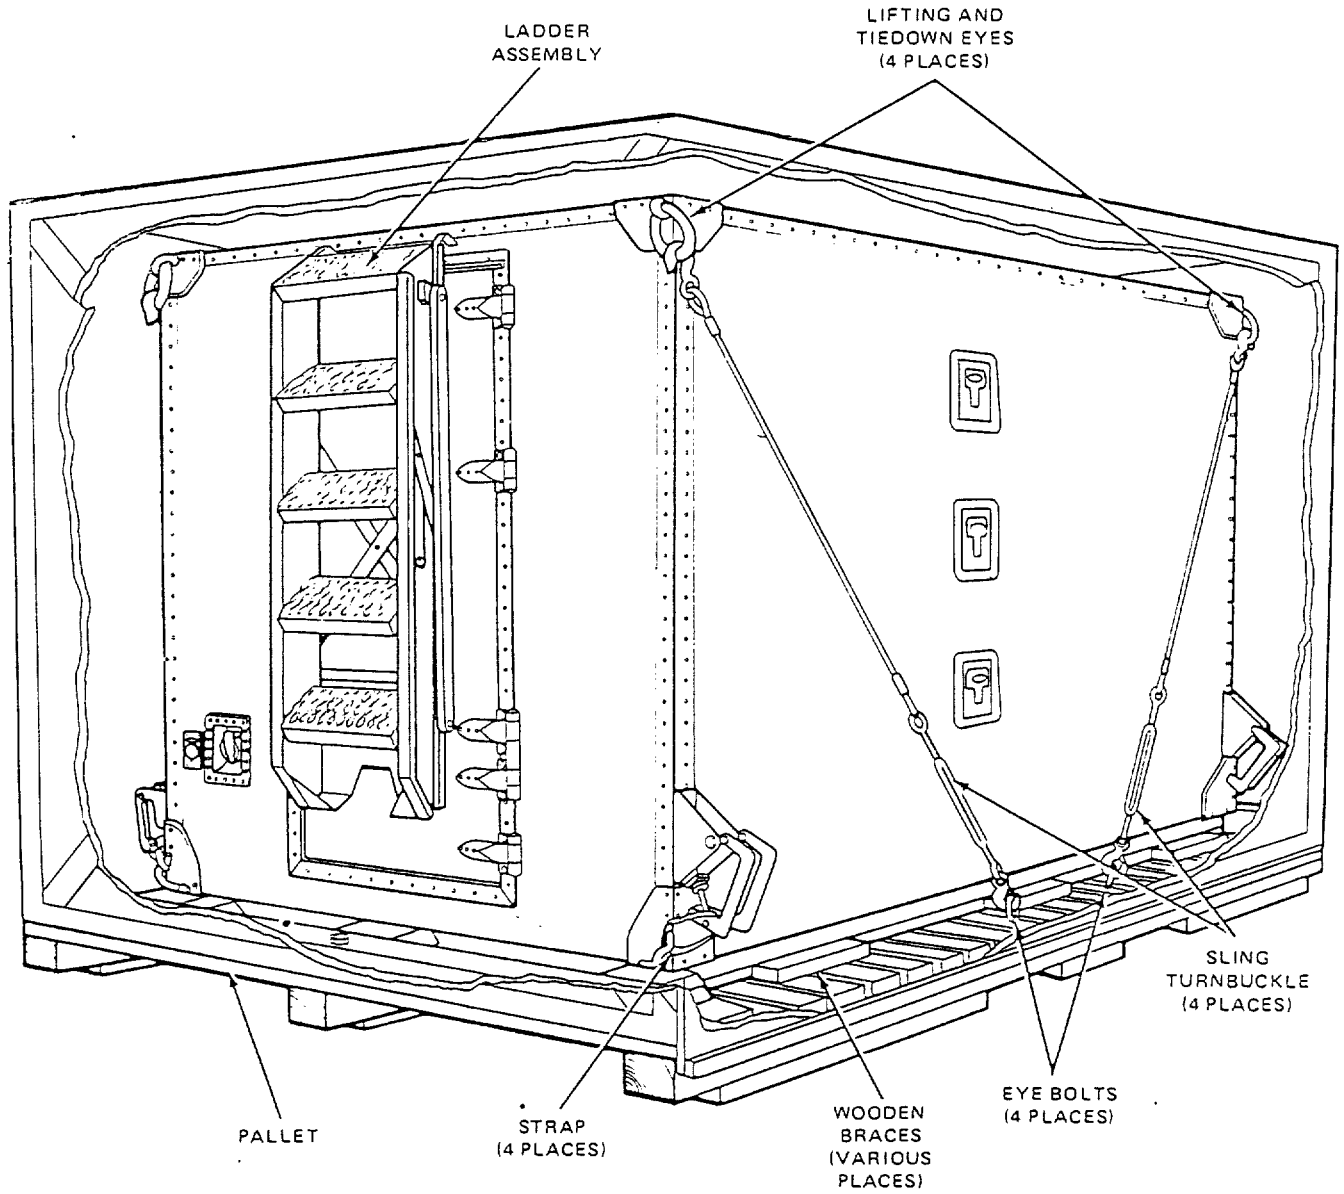

Figure 2-1. Electrical Equipment Shelter S-281/G, Packaged for Transit
**2-4 UNPACKING.** See figure 2-1. Remove the crate as follows: